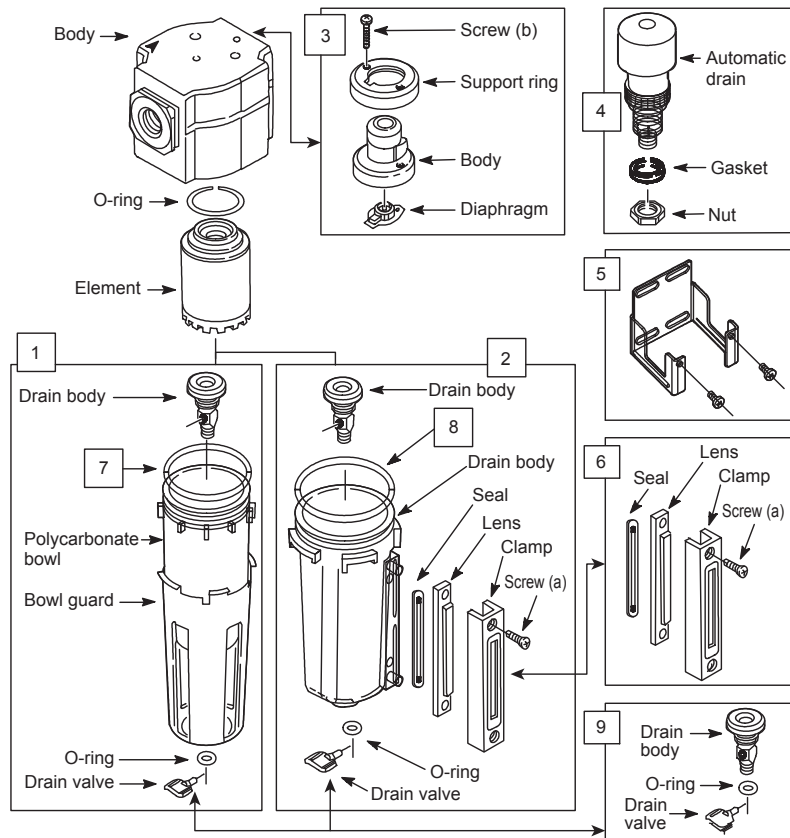

figure 2
OPERATING INSTRUCTIONS (See Figure 2)
- 1 **Disassembly (See Figure 2)**
- Disassemble in general accordance with the parts illustrated in Figure 2. Do not remove the drains or the service indicators unless replacement is necessary. Remove and replace only if they malfunction or if converting to automatic drain (4ZK19A).
- 2 **Cleaning (See Figure 2)**
- 3 **Assembly (See Figure 2)**
- Assemble filter as shown on Figure 2. Arrows on indicator and body must point in same direction.